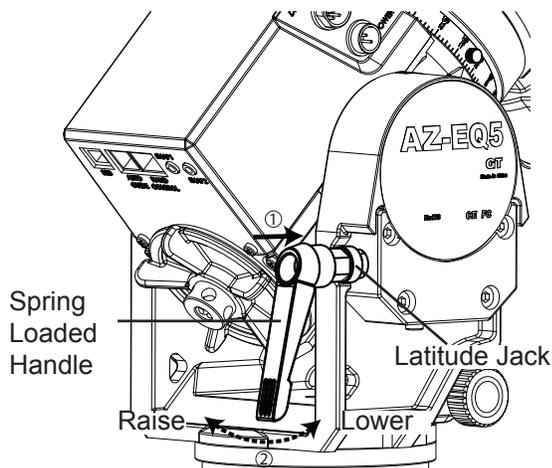
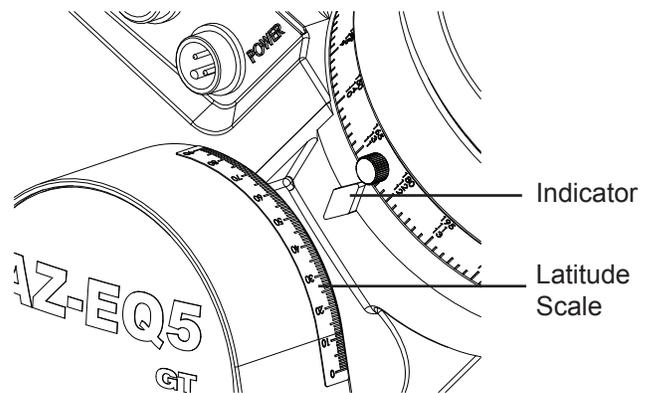

Fig. 2.3b
Fig. 2.3c
2. Push in the spring loaded handle to engage the handle with latitude jack (Fig. 2.3b), then turn the handle left or right to change the elevation of the RA axis to a specified angle by referring to the latitude scale on the right side of the mount (Fig.2.3c). When the handle reaches the left or right limits, release the handle to change its orientation for the next jacking.